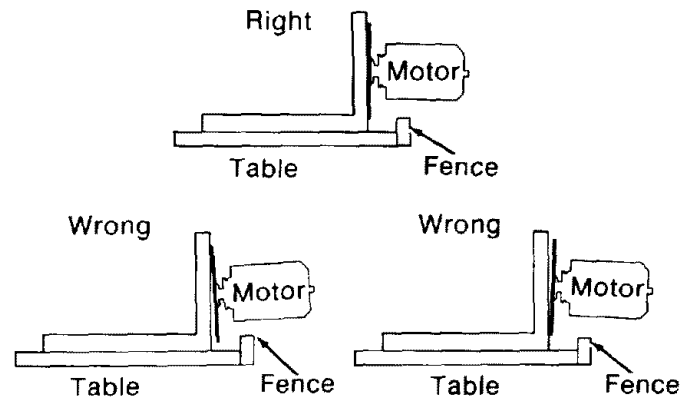

Fig. 89
5. If the square is flush with the *blade* after each rotation (Figure 89) go to step 11, or
If there is a gap between the square and the *blade* after any rotation (Figure 89), go to step 6.